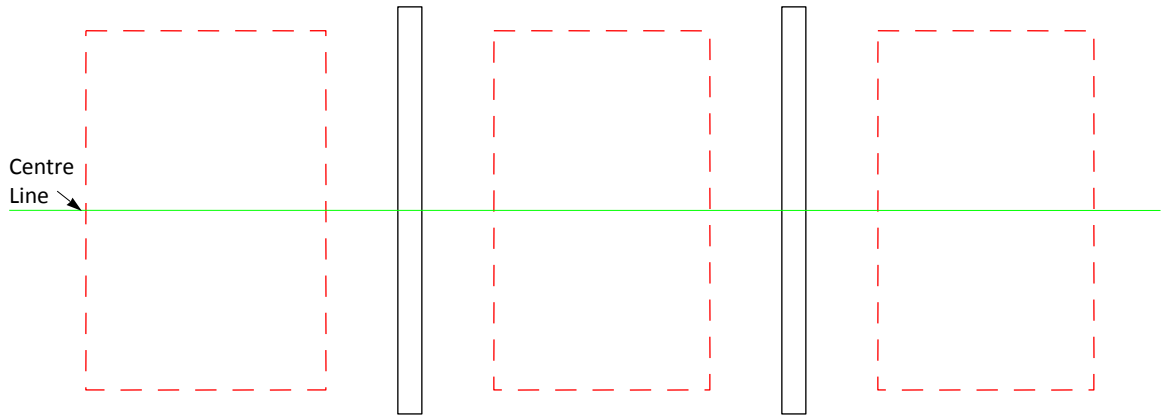

Figure 3.5. Field around parallel wires on conductive paper #2.
- Connect the 5V supply to the contact points on conductive paper, labeled #2, that resembles parallel lines. Use the voltmeter to measure the electric field between the parallel lines and the electric field outside of the parallel lines as denoted by the dotted boxes in Figure 3.5 and denote on the Figure the magnitude and direction of the electric field.
Connect the common (black) lead of the voltmeter to the power supply common and use the other to probe the conductive paper. Experimentally find a position where the voltmeter reads 2.0 volts. Now, while watching the voltmeter closely, slide the probe along a path such that the reading remains at 2.0 volts. The path is called the 2.0V equipotential. Sketch the 2V equipotential on Figure 3.5 too.
Now consider the centre line that bisects the conductive sheet as shown in Figure 3.5. Slide the voltmeter probe across the sheet along this line beginning on the left edge of the paper and sketch the voltage reading versus position onto the Figure.